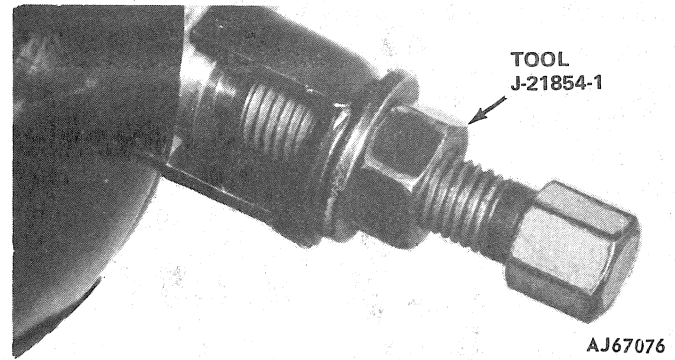

Fig. 2J-36 Pivot Pin Removal
(31) Place housing in center (nontilt) position.
(32) Remove housing pivot pins using tool J-21854-1 (fig. 2J-36).
(33) Lift tilt lever to disengage lock shoes and remove housing. Remove both ball bearing assemblies from housing if bearings are to be replaced.
(34) Remove tilt lever.
(35) Remove release lever pin from housing using pin punch or tool J-22635 (fig. 2J-37).